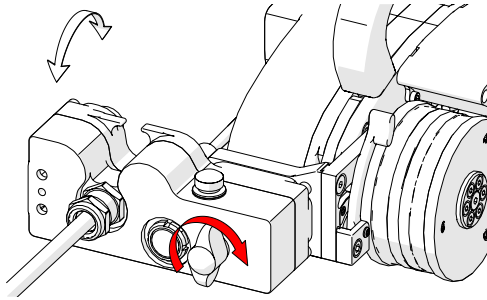

Fig. 86 - Tighten knob
3. Tighten the black wing knob to fasten the umbilical to the crawler (Fig. 86).